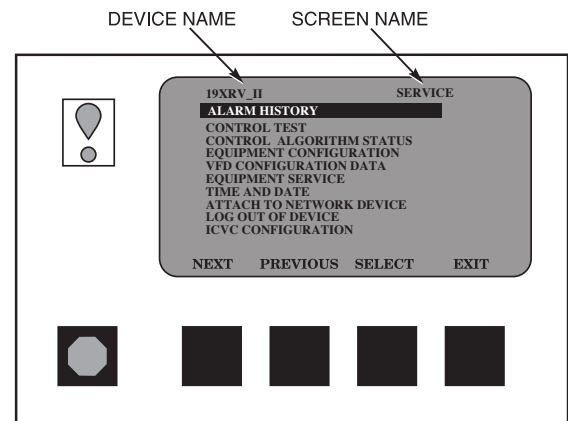

Fig. 15 — ICVC Service Screen
- If a screen other than the default screen is displayed on the ICVC, the name of that screen is in the top line. See Fig. 15.